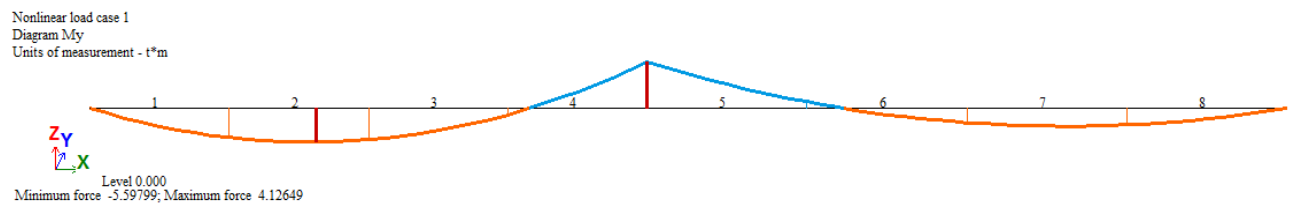

Figure 7.26 Diagram of bending moments **My**
- ⇒ To display diagram **My** (see Fig.7.26), on the **Results** tab, select **Forces in bars** panel and click **Diagrams My** button .